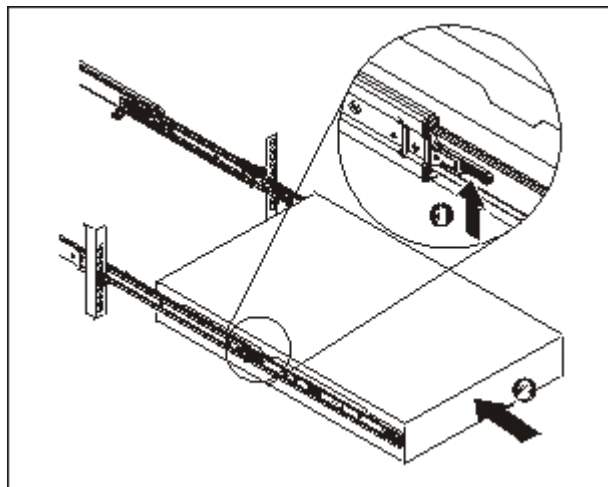

Figure 11. Slide the appliance into the rack
6. Slide the appliance into the rack, as shown in Figure 11.